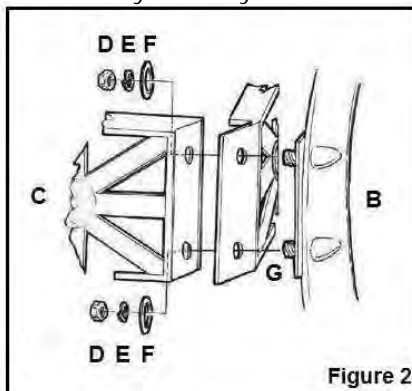

Figure 2
1. Screw the eight headless bolts (G) into the four legs of the table base (B) with the slotted end of the bolts facing outward, as illustrated. Tighten using a flat-head screwdriver.
2. Interlock two stretchers (C) and insert the bolts from one leg (B) through the interlocked stretchers (C), as illustrated in Figure 2. If the bolt holes from the interlocking stretchers do not line up properly, try mixing and matching various stretchers until the table can be properly assembled.
3. Attach one flat washer (F) and one lock washer (E) as shown, and then screw one nut (D) on to each bolt (G), as illustrated in Figure 2. Hand-tighten only.
4. Place the partially assembled table base on its side with one stretcher (C) pointed upward. Interlock a third stretcher with the stretcher pointed upward and insert the bolts (G) from a second leg (B) through the interlocked stretchers (C). Repeat Step 3. Hand-tighten only.